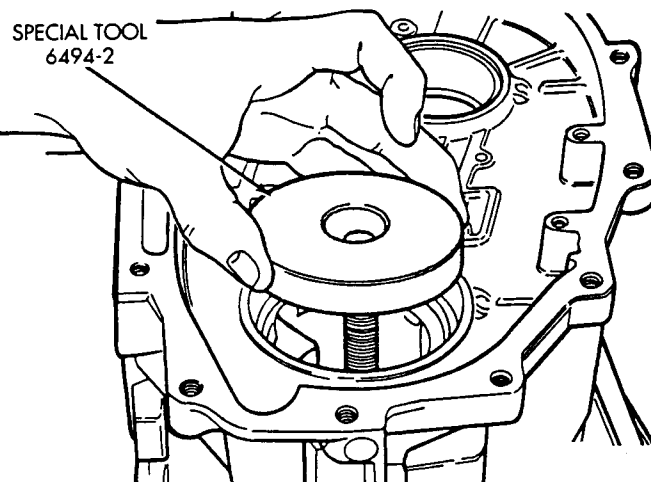

Fig. 5 Disc Installation
(5) Install centering disc (special tool 6494-2) onto gauge disc rod (Fig. 5).